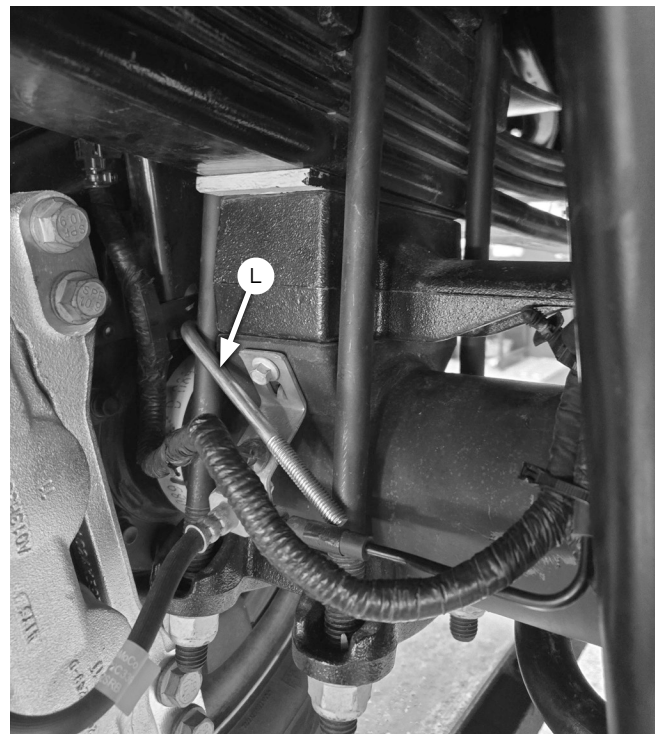

Fig. 31
- With the vehicle supported by safety stands, drop the axle or raise the body so that the assemblies can be put into position in between the axle and frame. Install and position the U-bolts (L) around the axle blocks (Fig. 31). Set the driver's (left) side and passenger's (right) side assemblies into position so that the lower bracket cup rests on the jounce bumper strike plate.